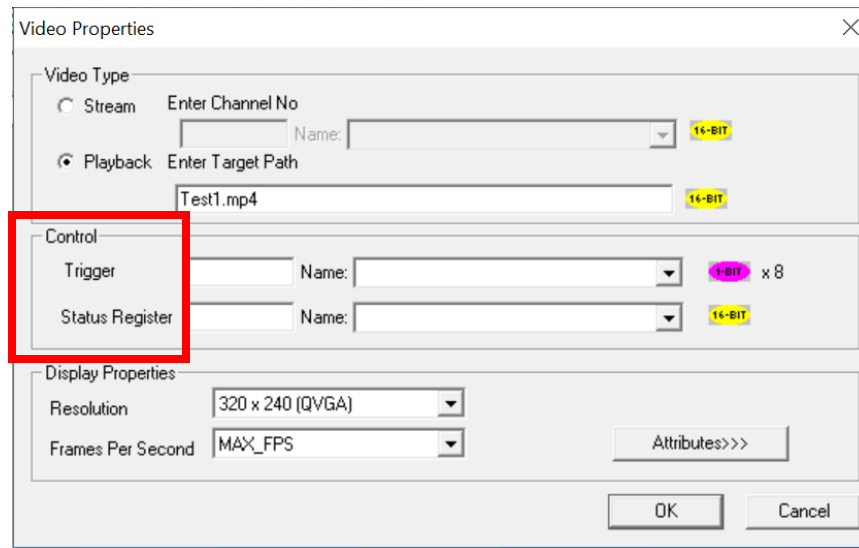

Figure 15.2 - Configuring Control
**For example:** Test1.mp4 (from microSD) or B:\Test2.mp4 (from USB). See Figure 15.2, below.